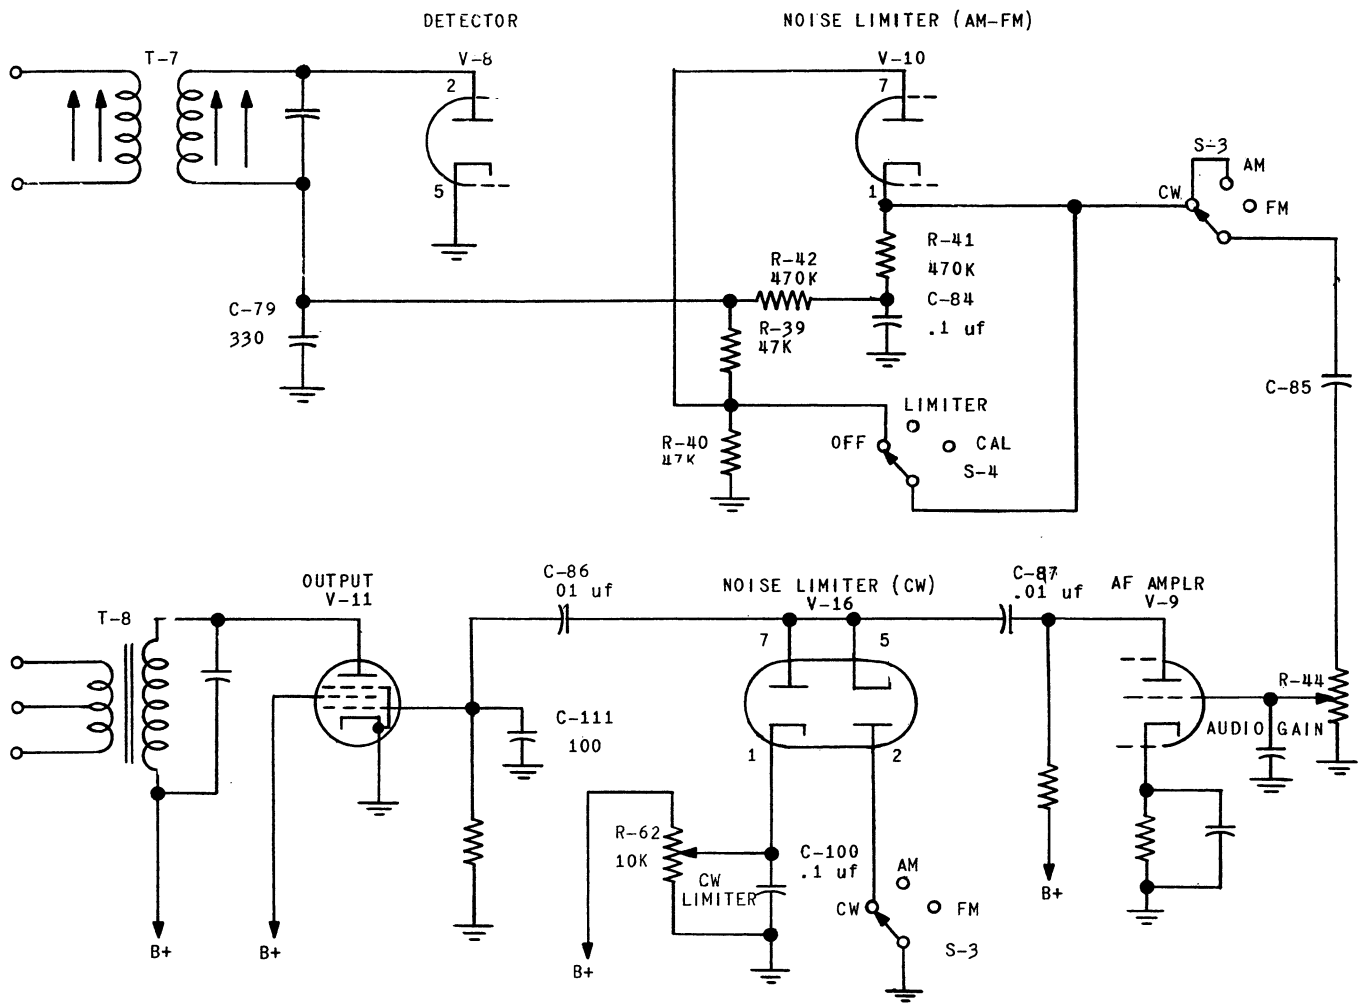

FIGURE 4-3 NOISE LIMITER CIRCUITS
4.5.4. NOISE LIMITER. - A series type noise limiter is used in the 75A receiver for phone reception. This limiter employs 1/2 (pins 1 and 7) of the type 6AL5 dual diode tube V-10. Refer to figure 4-3. Due to AC loading of the second detector, heavy noise impulses are automatically clipped from the positive audio peaks in the detector. The noise appearing on the negative side of the audio cycle is clipped by the noise limiter. In operation, a negative voltage produced by rectification of the carrier, is developed across capacitor C-84. This voltage can not change rapidly due to the size of C-84 and R-42 through which C-84 is charged. This negative potential is placed upon the cathode of the noise limiter tube through R-41. The cathode is then negative in respect to the plate of the noise limiter tube and plate current flows. This plate current is modulated by the receiver audio. The modulated plate current produces audio on the noise limiter cathode (to which the grid of the audio amplifier section of V-9 is connected). The noise limiter diode will conduct as long as the cathode is negative in respect to the plate, however, when a heavy noise impulse is received, the plate is being driven
4.5.5. CW NOISE LIMITER. - A separate noise limiter is used during CW reception. This limiter, a shunt type is bridged across the audio line to the 6AQ5 grid. This limiter short circuits the audio line on noise impulses above the level chosen by the operator. The value of limiting is adjustable by R-62, the CW LIMITER control. Refer to figure 4-3. A dual diode tube is used in this limiter. The adjusting bias applied to pin #1 is obtained from the main power supply. Capacitors C-86 and C-87 accumulate a charge so that clipping will occur equally on both the positive and negative portions of the audio cycle. This limiter is turned on automatically when placing switch S-3 in the CW position. If limiting is not wanted, the CW LIMITER control should be rotated to the counterclockwise position.